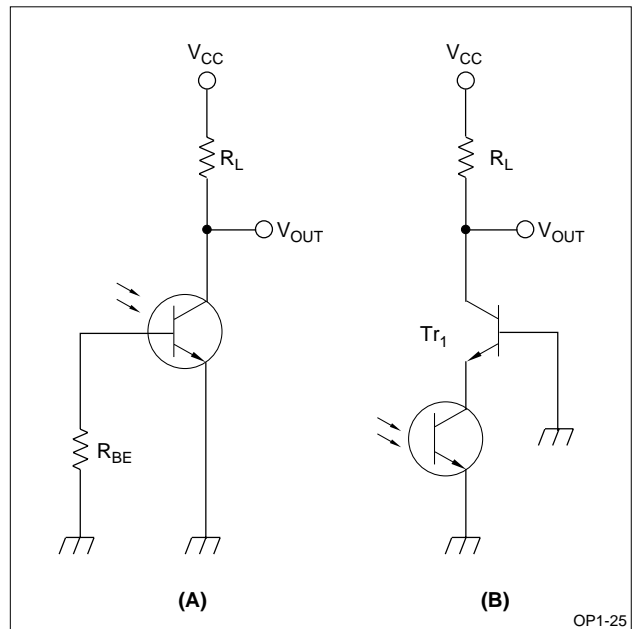

Figure 10. Fundamental Phototransistor Circuit (II)
The circuit shown Figure 10 (A) uses a phototransistor with a base terminal. A R_{BE} resistor connected between the base and emitter alleviates the influence of a dark current when operating at a high temperature. The circuit shown in Figure 10 (B) features a cascade connection of the grounded-base transistor (Tr_1) so that the phototransistor is virtually less loaded, thereby improving the response.